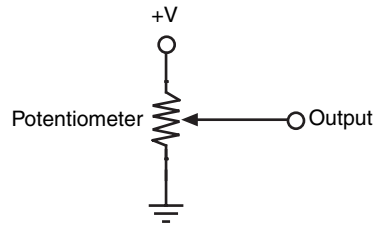

FIGURE 14-21 Potentiometer voltage divider.
- A potentiometer forms a voltage divider when connected as shown in Fig. 14-21. The voltage varies from ground and +V. No amplification is necessary.